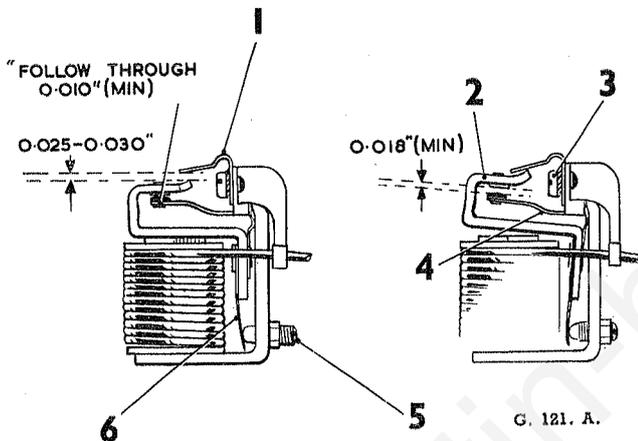

Fig. N.17. Cut-out mechanical setting.
- (1) Slacken the adjusting screw locking nut Fig. N.17, and unscrew the adjusting screw (5) until it is well clear of the armature tension spring (6). Slacken the two armature assembly securing screws (3).
- (2) Press the armature squarely down against the copper sprayed core face and re-tighten the two armature assembly securing screws.
- (3) Using a pair of round-nosed pliers, adjust the gap between the armature stop-arm and the armature tongue by bending the stop-arm. The gap must be .025 in. to .030 in. when the armature is pressed squarely down on the core face.
- (4) Similarly, the insulated contact blade must be bent so that, when the armature is pressed squarely down against the core face, there is a minimum "follow through", or contact deflection of .010 in. The contact gap, when the armature is in the free position must be .018 in. minimum. Reset the cut-out adjusting screw as described under "Cut-out Electrical Setting".